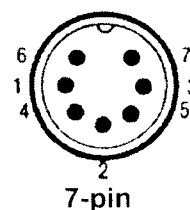

Figure 1
4. **Control test:** Disconnect the 7-pin socket N°5 from the power unit. See Appendix 1, page 2-4. Measure the resistance between terminals 1 and 4 (see figure 1) with an ohmmeter (see appendix 2).